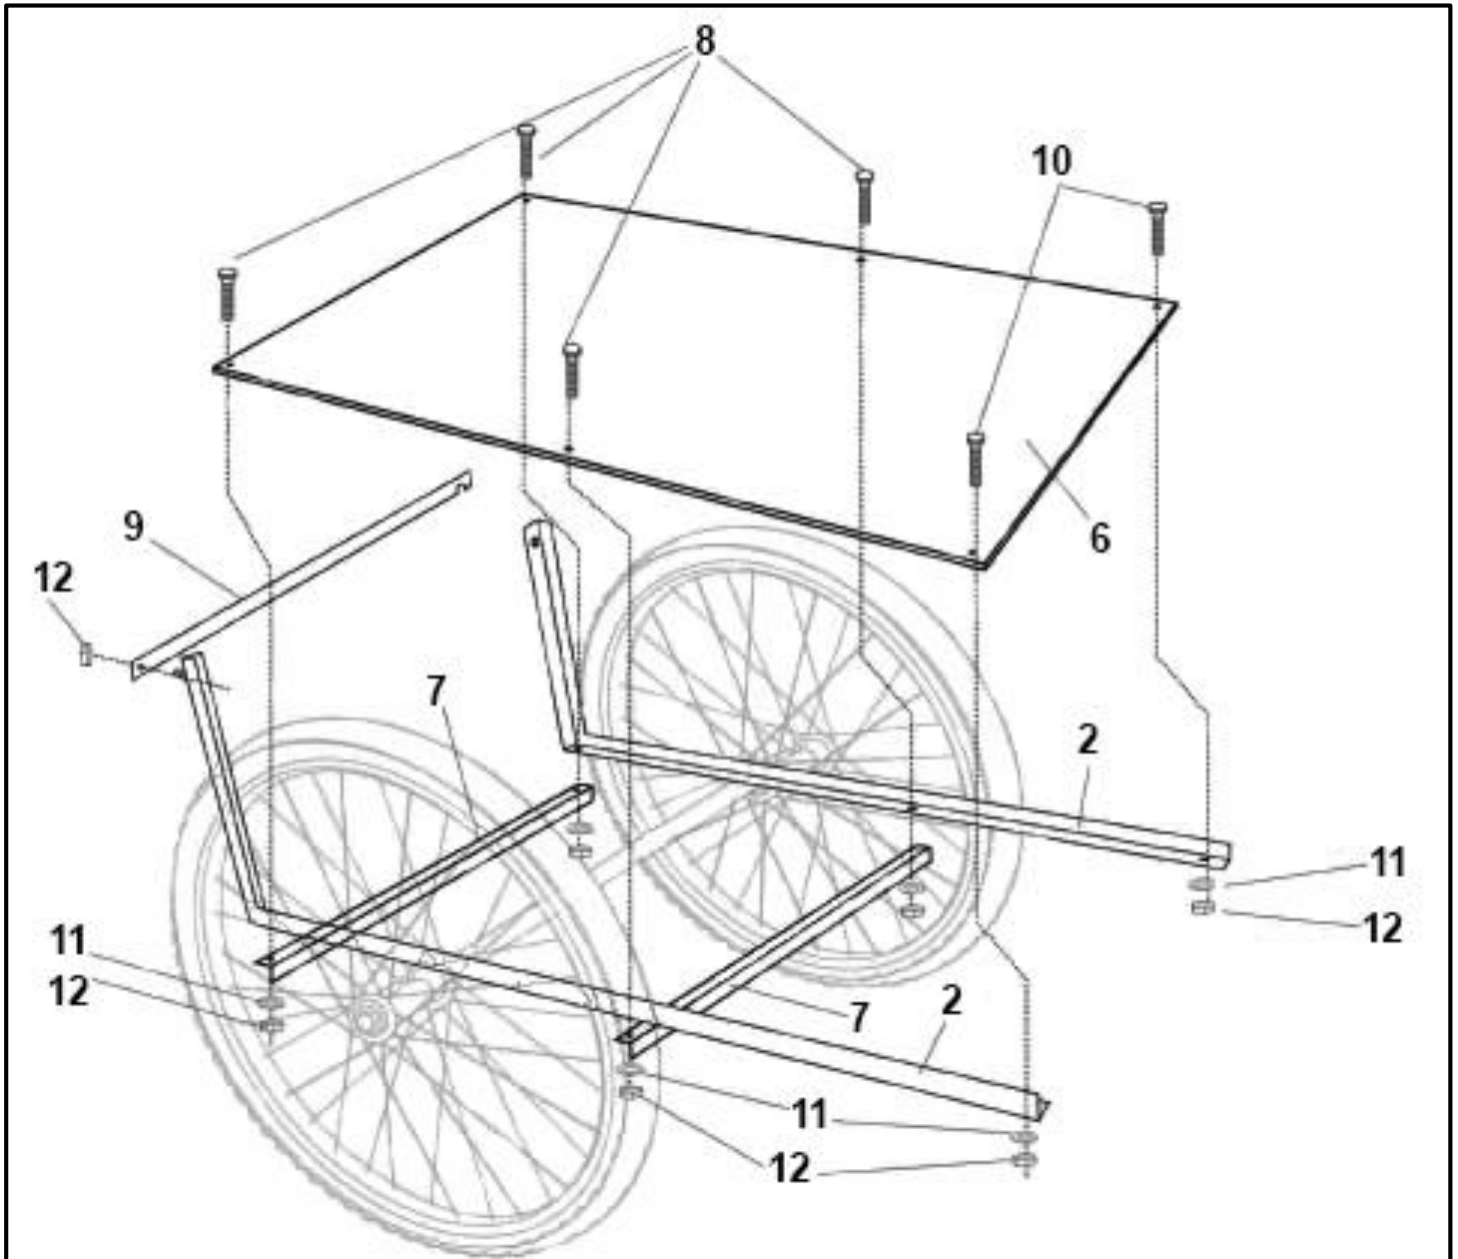

Figure 2
**SECOND** – Attach Wood Floor Bed (See Figure 2)
1. Put Wood Floor Bed (6) onto L-Shaped Frame (2).
2. Attach Wood Floor Bed (6), L-Shaped Frame (2) and Support Frame (7) together, tightening with Bolt (8) and (10), Washer (11) and Lock Nut (12).
3. Assemble Rear Connect Bar (9) on L-Shaped Frame (2) with Lock Nut (12).